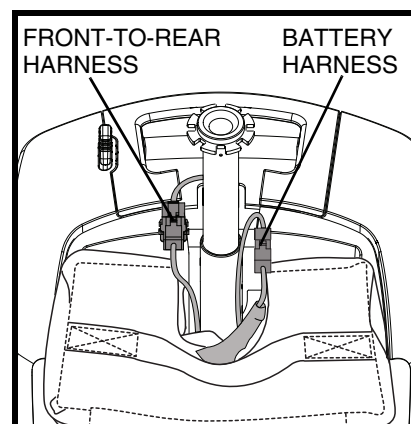

Figure 21. Harness Connections
4. Disconnect the battery harness. See **figure 21**.
5. Disconnect the front-to-rear harness. See **figure 21**.